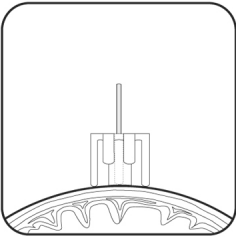

Figure 1: Place Drill Bit Assembly into Tripod and position perpendicularly on cranium.
- ⇒ Position the Drill Assembly in the Tripod, then use the Tripod to position the Drill Assembly perpendicularly on the cranium (Fig. 1).